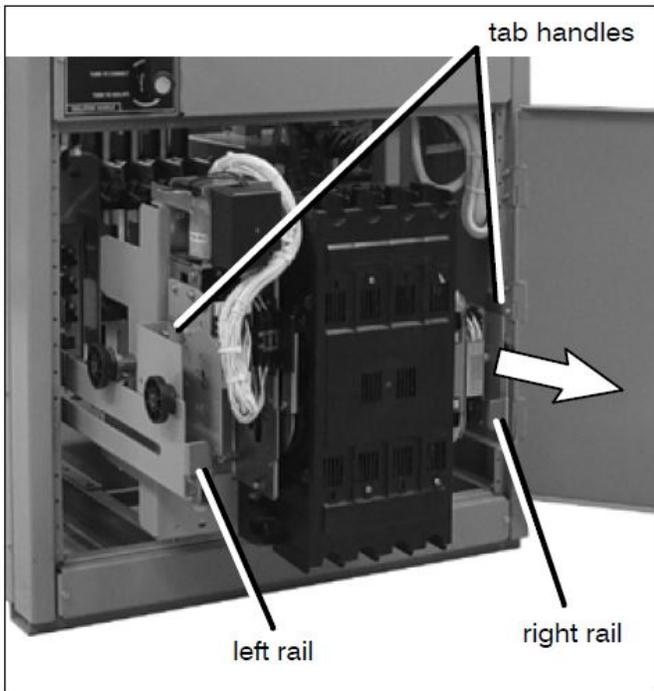

Figure 17. Transfer switch isolated and pulled out for inspection
4. Open the lower enclosure door. Pull out both left and right side rails then use the two tab handles to roll out the transfer switch. It can be safely inspected in this position. The transfer switch can also be removed for easier maintenance operations. See Figure 17.